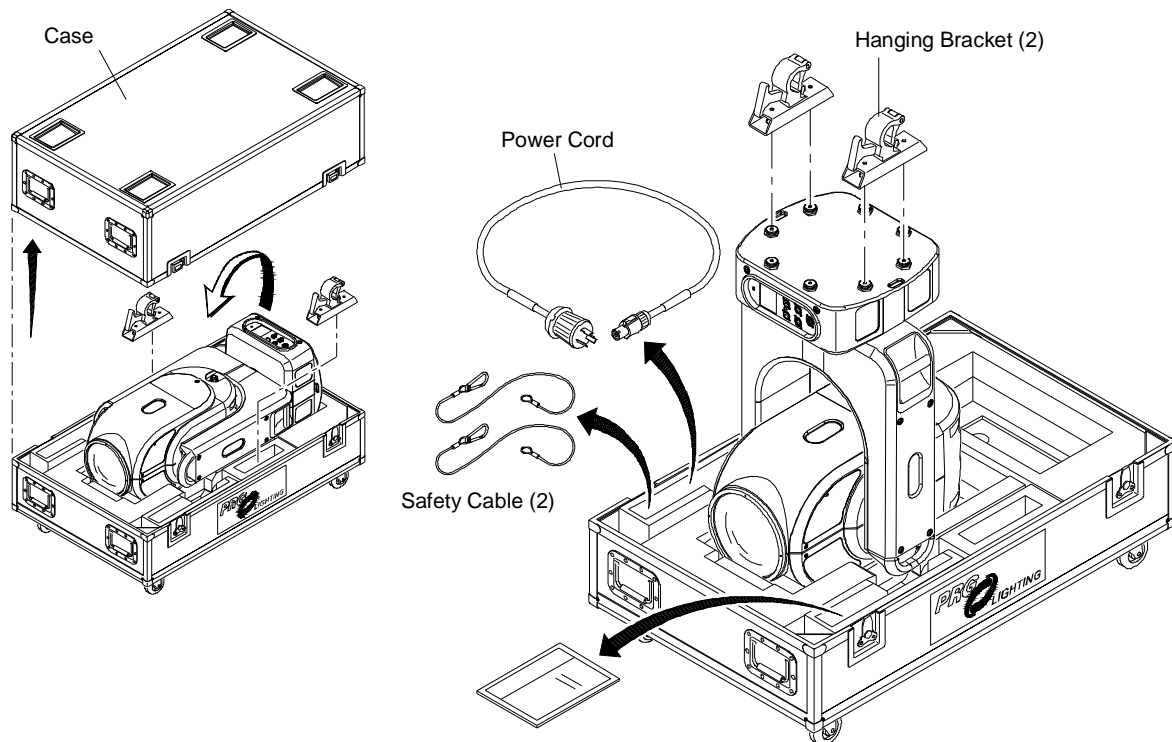

Figure 2-2: Opening Case and Attaching Hanging Brackets
- Step 1. Unlatch and remove case lid (**Figure 2-2**).
- b. Orient Hanging Bracket in desired direction over two attachment buttons on bottom of upper enclosure (**Figure 2-2**).